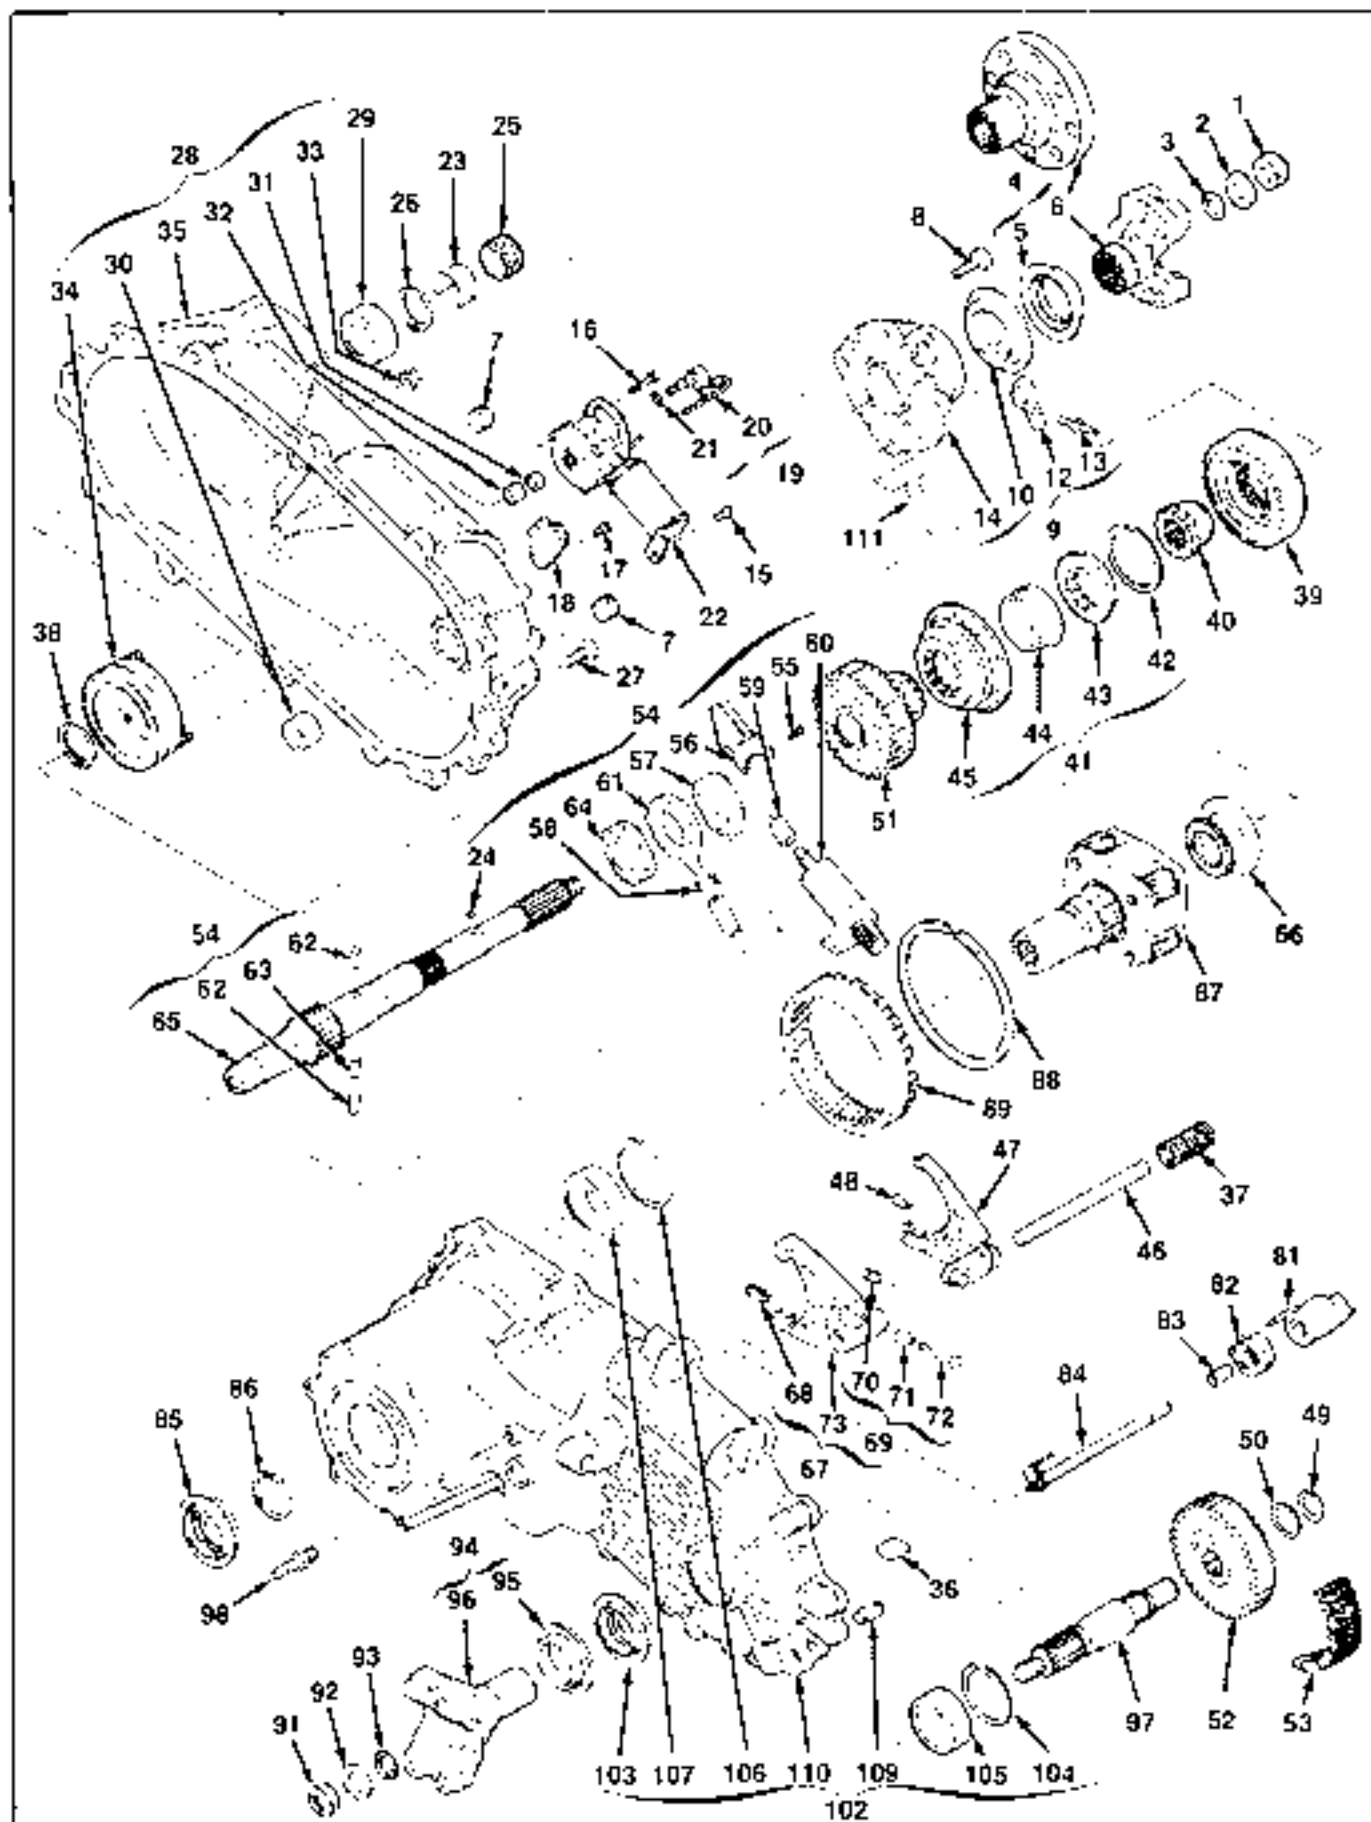

Figure P-1. Transfer Case Assembly, Electric Shift
P-3. The PART NUMBER column in the parts list gives the part number which can be used to order replacement parts. Since this section covers more than one model, and not all detail parts are used on a particular model, the words "not used" may appear in this column. If more than one part number is listed for the same index number, application information will be given in the DESCRIPTION column. Complete information on the identification tag (III, figure P-1 or P-2) should be included with all parts orders (see figure 1-1).
**PARTS LIST FOR FIGURE P-1**
**PARTS LIST FOR FIGURE P-1 (conL)**